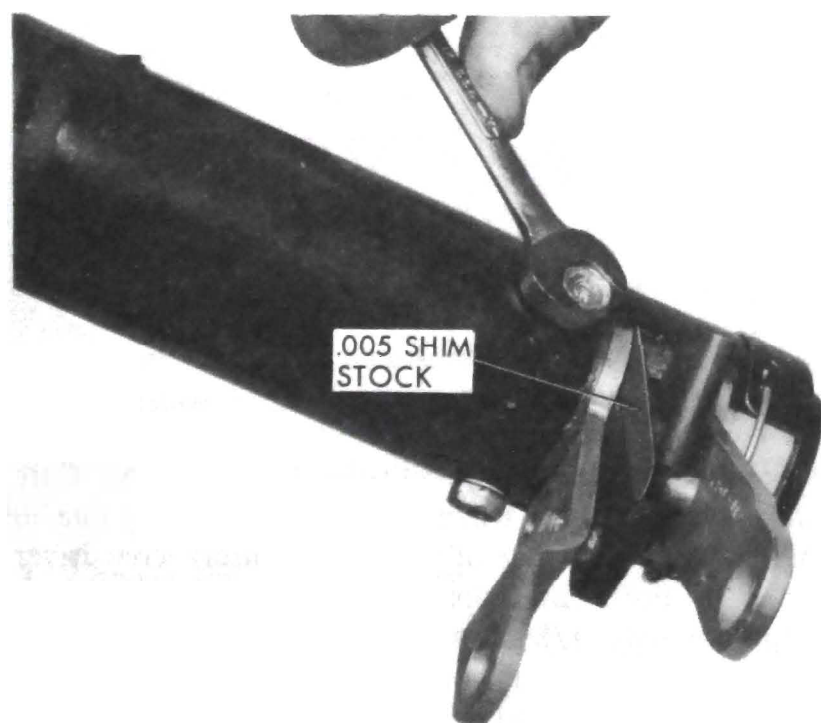

Figure 90-109 - Adjusting Shift Tube Bearing
5. (Manual Transmission Only) Place a .005 shim between first/reverse lever and lever spacer and turn upper shift bearing down and tighten the three screws. Remove shim. See Figure 90-109.